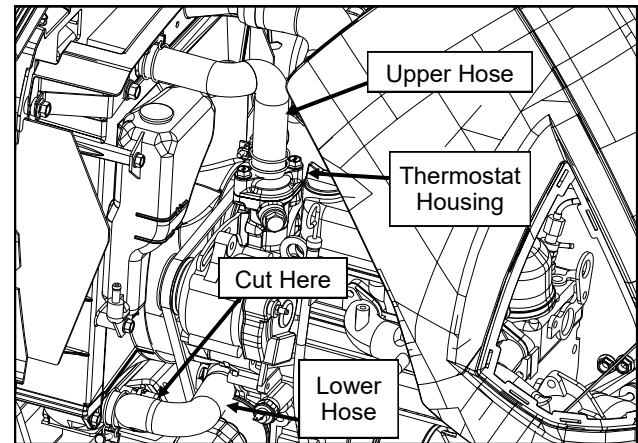

Figure 20.4 (Right Side of Engine Bay)
- 20.4 Locate the lower coolant hose on the right side of the engine. See Figure 20.4. Cut the lower hose between the two 90° bends as shown and let any remaining coolant drain into a clean drain pan.